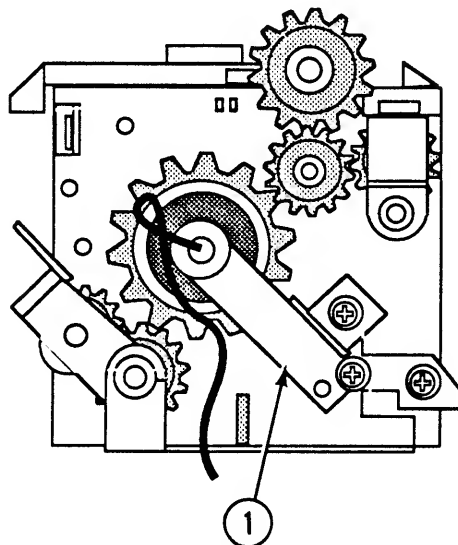

FIGURE 16
2. Place the right heater support (Figure 16, #1) in position and replace the Phillips screw.